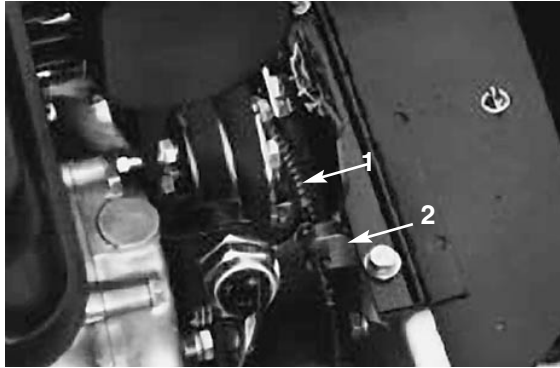

Figure 36
2. Loosen the retainer securing the v-belt cover and pivot the cover open (Fig. 36).